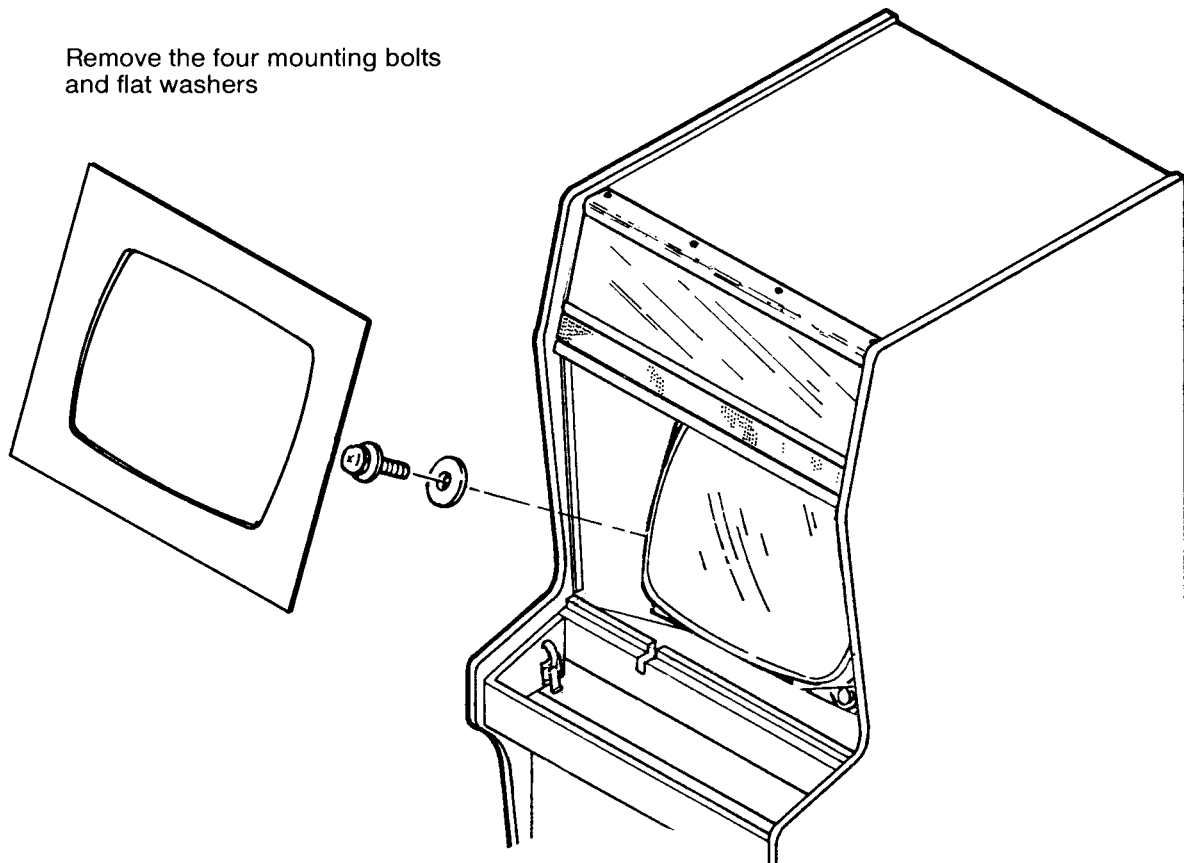

Fig. 7
- (c) Standing at the front opening of the game, remove the four mounting machine screws and flat washers. See Fig. 7.